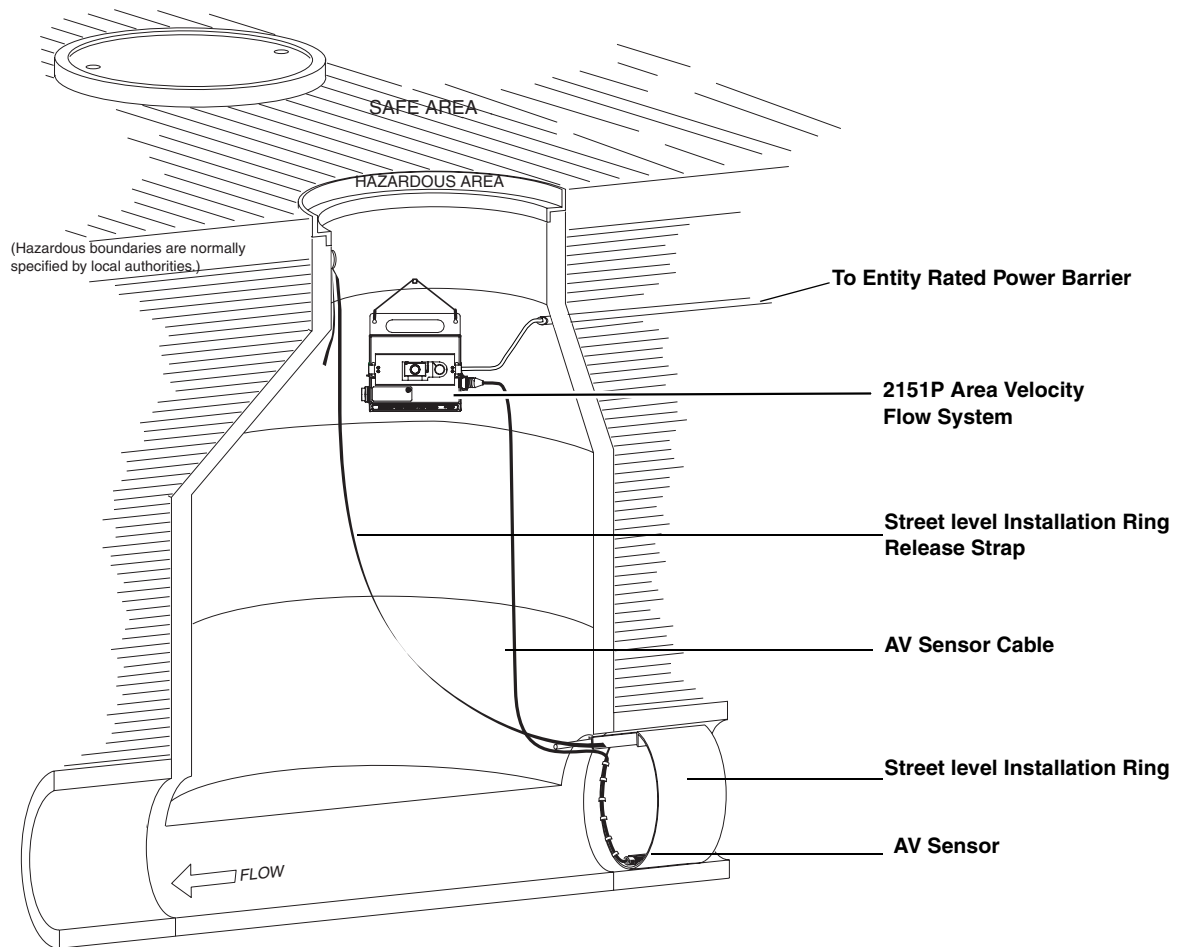
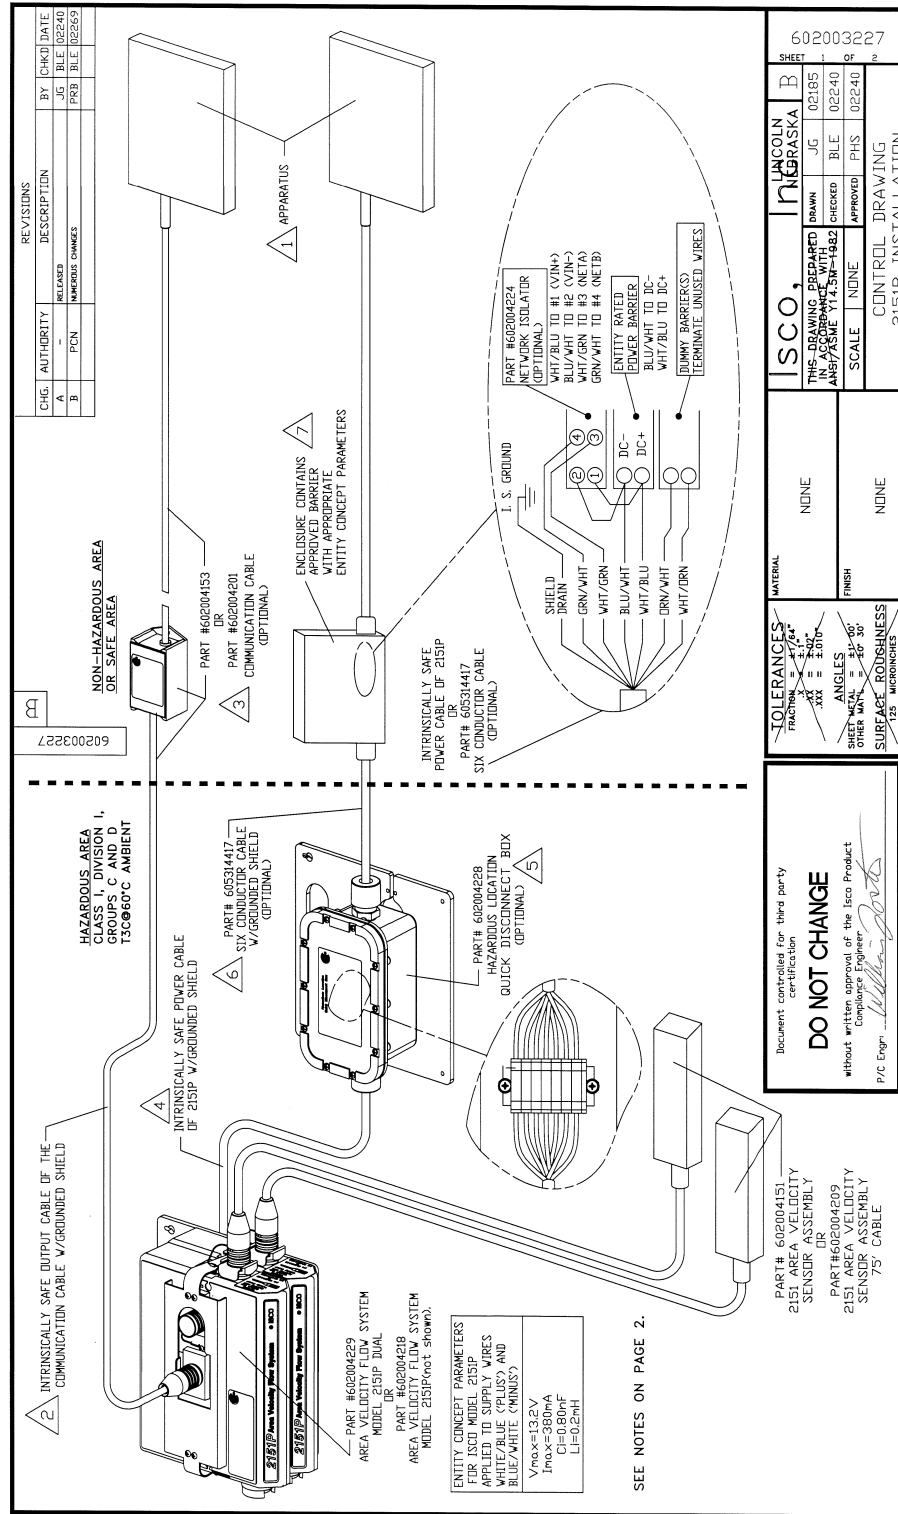

Figure 2-2 Mounting the 2151P in a Typical Round-pipe Installation
Figure 2-3 Control Drawing of 2151P Area Velocity Flow System Installation, Page 1
This equipment is intended to be installed in a Class I, Div. 1, Groups C and D hazardous location. When installed in a hazardous area, the equipment **MUST** be installed according to the installation control drawing P/N 60-2003-227, shown in Figures 2-3 and 2-4, and the requirements of the authority having jurisdiction at the installation site.
3. Mount the 2151P (Section 2.3.4 and Figures 2-3 and 2-4)
When the 2151P Area Velocity Flow System is installed in a hazardous area, it **MUST** be assembled and installed as shown in the installation control drawing P/N 60-2003-227 (Figures 2-3 and 2-4) in order to maintain intrinsic safety.
Figure 2-2 shows the 2151P mounted inside a manhole; your setup would be similar.
The 2151P's intrinsically safe power cable must be kept clear from any other objects or wires, except for the connections shown in Figure 2-3. The power cable should be routed through conduit (as shown in Figure 2-2) to the safe area, where it must be connected to an entity rated power barrier. (If an Isco Quick Disconnect Box is used, as described in Section 2.6, the 2151P power cable will be connected to the QD Box and the six conductor cable with shield drain wire from the QD Box will be connected to the entity rated power barrier.)
All installations in areas that are rated as hazardous locations must conform to the 2151P installation control drawing P/N 60-2003-227, as shown in Figures 2-3 and 2-4.
All installations in hazardous locations **must** conform to the 2151P installation control drawing P/N 60-2003-227, as shown in Figures 2-3 and 2-4, in addition to the requirements of the authority having jurisdiction over the installation site. When installing the 2151P system, keep the following points in mind:
Refer to Figures 2-3 and 2-6 for connections.